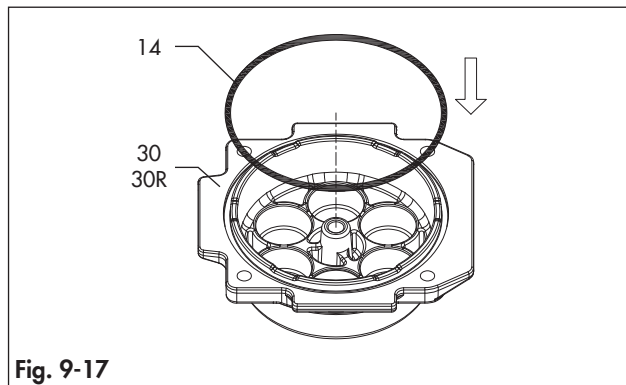
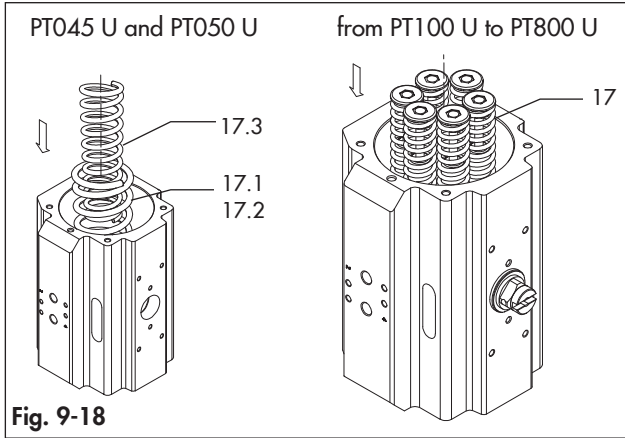
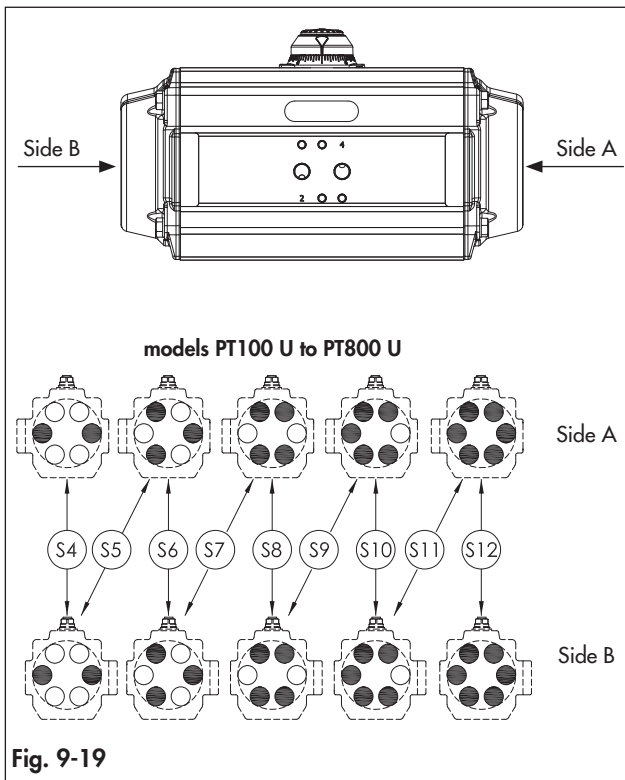

Fig. 9-17
Fig. 9-18
Fig. 9-19
- Place the end caps o-ring (14) into the groove as shown in Fig. 9-17 making sure that the o-ring is stable in its housing.
- Lubricate again the internal surface of the body (50).
- In case of spring return actuator, place the correct quantity of spring cartridges in the correct position as indicated in Table 9-4, Table 9-5, Fig. 9-18 and Fig. 9-19 depending on the actuator model.